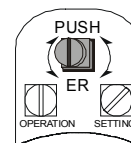

Fig. 8.4.1
- Disengaged PUSHER SHAFT: With a suitable screwdriver press the 'PUSHER' selector 3 mm and turn it 45°, ensure that it does not return to its original height (See figure 8.4.1)
- Note: Pusher shaft allow to engage/disengage the switching and signalling unit from hydraulic actuator gears. (Figures 8.4.1 and 8.4.2)